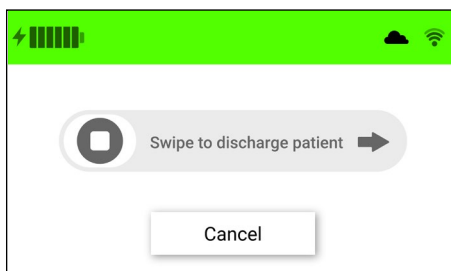

Figure 13. Confirm discharge screen
2. A confirmation screen will appear . Swipe to discharge the patient. (Fig. 13)